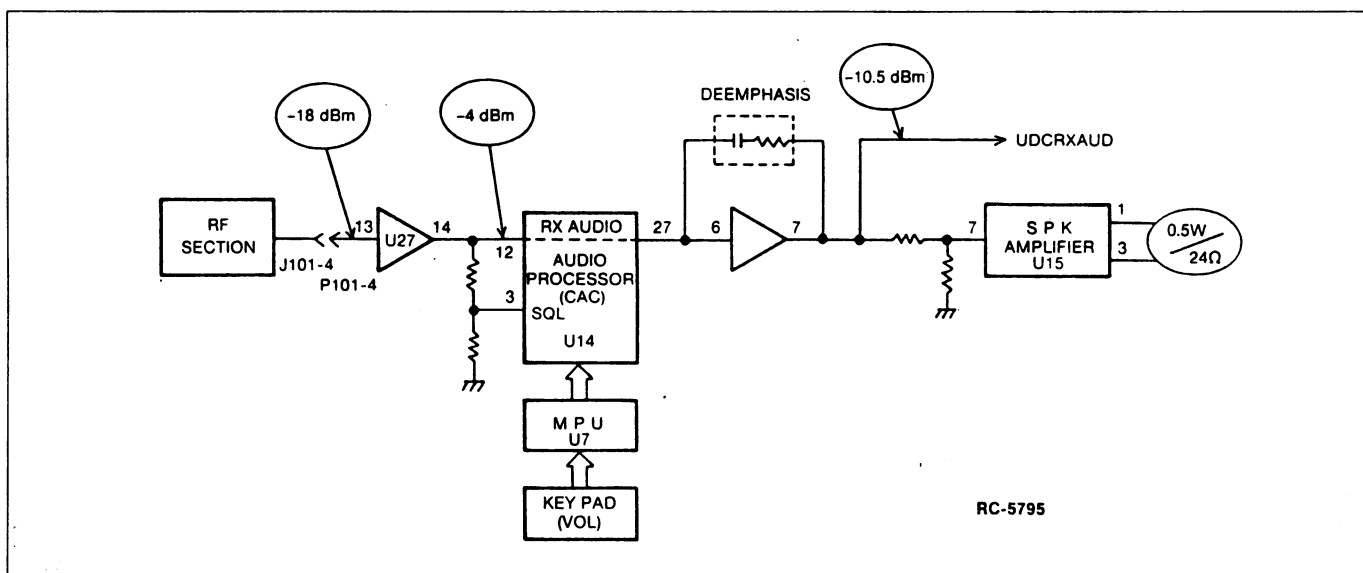

FIGURE 6 - RECEIVE AUDIO OUTPUT
b. **Analog Board:** The receive audio signal enters the Analog Board at P101, Pin 4 and connects to J7-13 (RXDISCOUT). The audio enters CAC IC U14 at Pin 12. Inside the CAC the signal is passed through a 300-3000 Hz Band Pass Filter (BPF) and a 46 dB volume level control. The signal at U14, Pin 27 is passed through a de-emphasis circuit and amplified by audio amplifier U27 and SPKR amplifier A15 to drive the speaker. Typical levels needed to obtain a 1 kHz, 0.35 Watt receive rated audio output are shown in Figure 6.